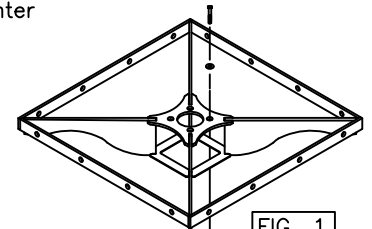

FIG. 1
Slide (F) onto end of (D), matching the square opening with the post, until it rest atop the post. Secure (F) and (D) with four (I) and four (M) into each pre-welded nut inside post, see FIG. 1. Draw bolts to a snug fit with a wrench.